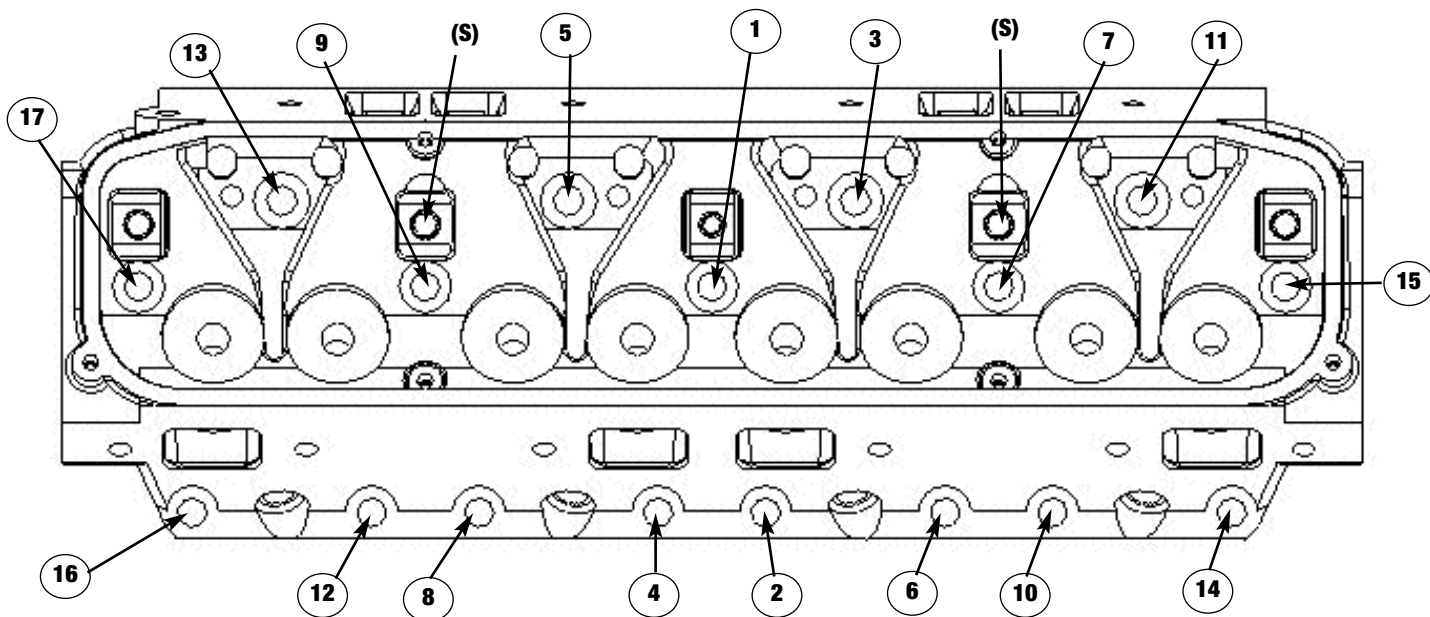

Fig. 1
Installation is the same as for original equipment cylinder heads. Consult service manual for specific procedures, if necessary. Be sure that the surface of the block and the surface of the head are thoroughly cleaned to remove any oily film before installation. Use alcohol or lacquer thinner on a lint-free rag to clean. Apply oil or suitable thread lubricant to head bolt threads and the underside of bolt heads and washers. Torque to 70 ft./lbs. in three steps (40, 55, 70) following the factory tightening sequence (**see Figure 1**). Apply a continuous 1/8" bead of automotive RTV silicone sealer to end sealing surfaces on block and along bottom of intake ports on cylinder head. Also, apply a thin bead of sealer around intake ports on cylinder head and gasket. Position intake gasket thin valley cover in place and tighten bolts down. Then, place intake manifold in position and torque manifold bolts to 25 ft. lbs. **Notes:** (1.) *Rocker shaft hold-down studs, nuts and washers, for 2 places marked (S) in each head, are supplied in this kit.* (2.) *Double nut both studs and screw them in until they reach the bottom. Install rocker shaft, factory concave washer and hard washer supplied with this kit. Apply 30W oil to fine threads and under nuts and washers and torque nuts to 25 ft./lbs. A head bolt re-torque is recommended after initial start-up and cool-down (allow 2-3 hours for adequate cooling).*